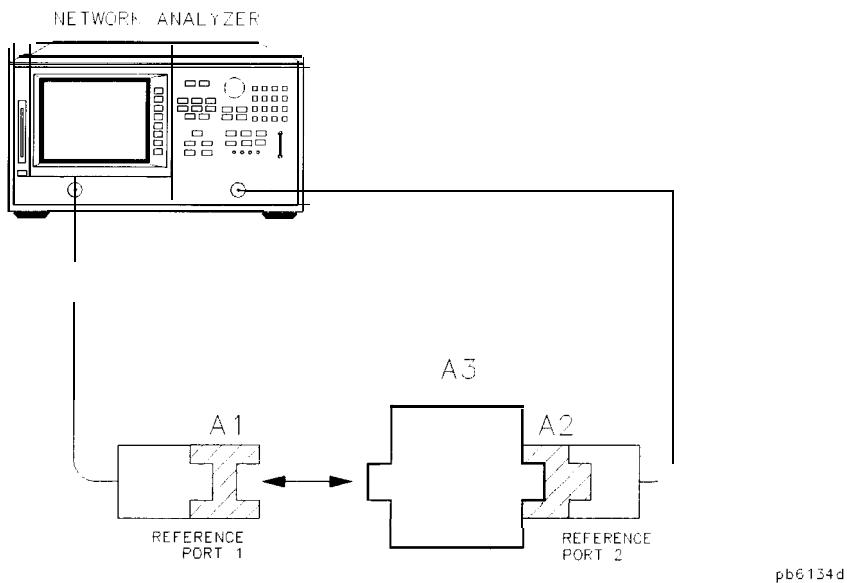

Figure 5-12. Two-Port Cal Set 1
1. Connect adapter A3 to adapter A2 on port 2. (See **Figure 5-12.**)